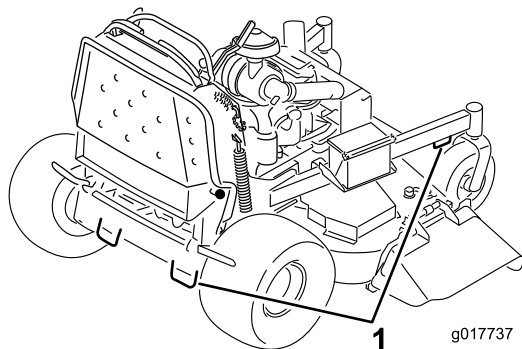

Figure 24
6. Use the metal tie-down loops on the machine to securely fasten the machine to the trailer or truck with straps, chains, cable, or ropes (Figure 24).